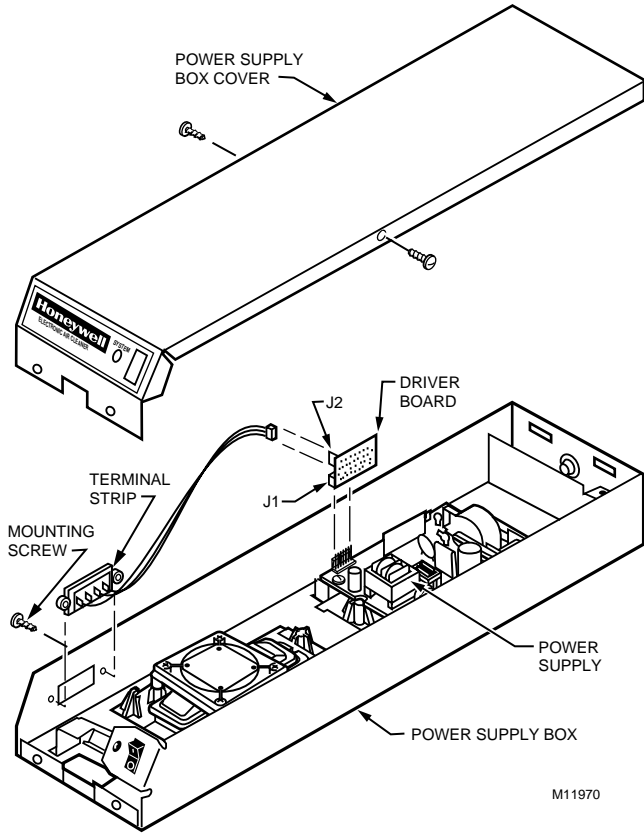

Fig. 11. Installing the driver board on the EAC.
9. Plug the connector on the end of the cable assembly into the J2 terminal on the driver board (included with W8600F kit). See Fig. 11.